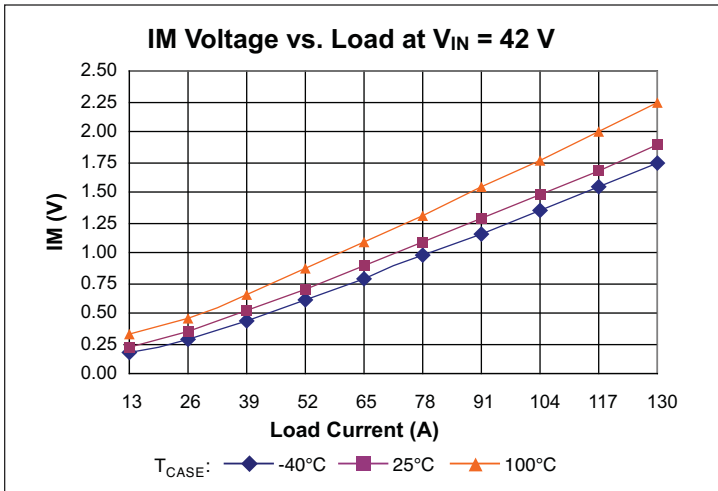

Figure 11 – IM voltage vs. load
**Current Monitor (IM)** pin provides a voltage proportional to the output current of the VTM. The voltage will vary between 0.206 V and 1.825 V over the output current range of the VTM module (See Figures 11–13). The accuracy of the IM pin will be within 25% under all line and temperature conditions between 50% and 100% load. The accuracy of the pin can be improved using a predictive algorithm based on the input voltage and internal temperature.